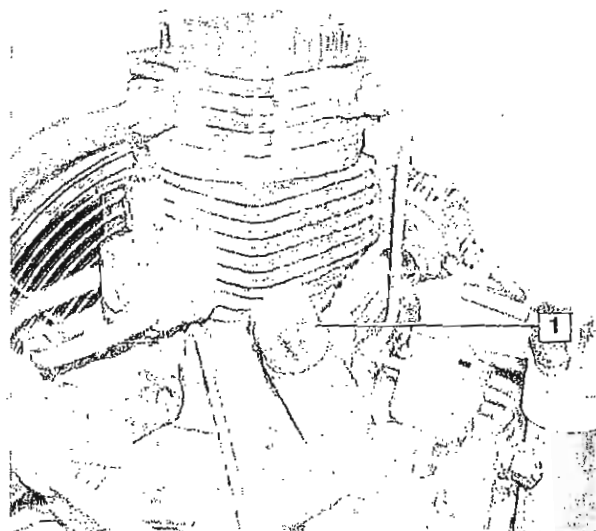

Fig. 5 Oil filler neck
- Remove red cap (1, Fig. 5) from oil filler neck.